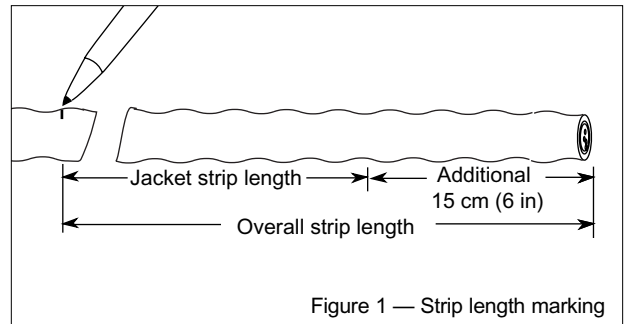

Figure 1 — Strip length marking
Step 1: Refer to the documentation for the product you are installing to obtain the proper jacket removal length. *Add 15 cm (6 in.) to the overall length in case fibers are damaged during the inner cable jacket removal.* Use a tape measure and permanent marker to mark this location on the outer jacket (Figure 1).